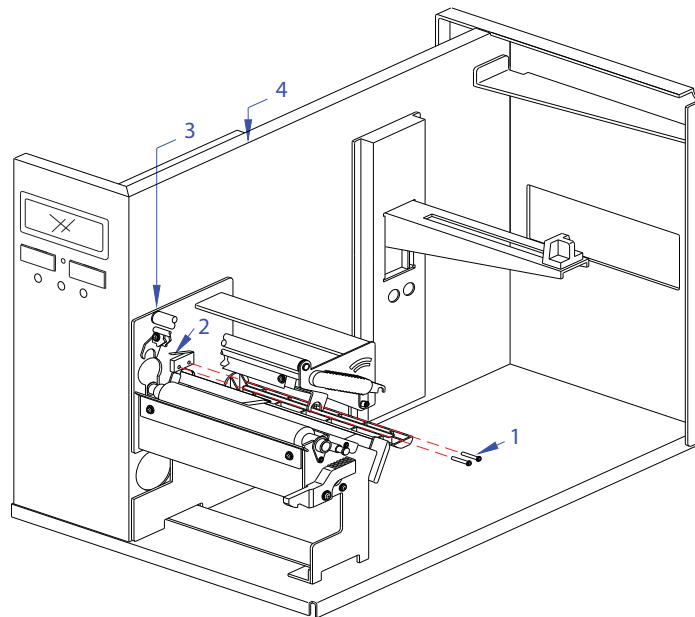

Figure 7-13, Head-Open Sensor Replacement
- 4 Unlatch the print head and remove two screws (1, Figure 7-13) securing defective head-open sensor (2) to print assembly (3).
- 5 Withdraw defective head-open sensor (2) from within print assembly (3).
- 6 Route the wiring harness of replacement head-open sensor (2) though the printer's center frame (4).
- 7 Secure replacement head-open sensor (2) to print assembly (3) using two screws (1).